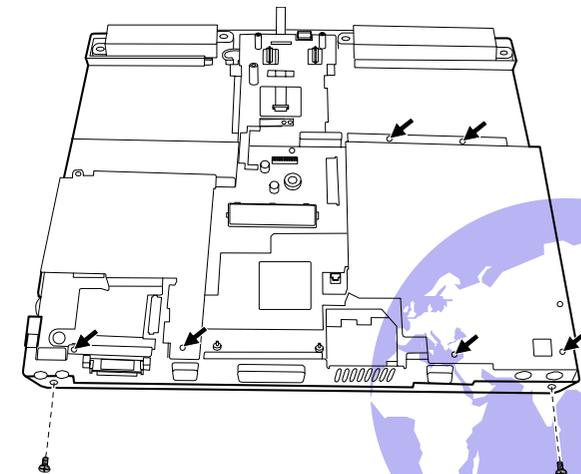

Figure 5-31. Removing Eight Screws Fastening Metal Shield and System Board
5. Remove two screws on the rear side, as well as six screws fastening the metal shield. (Refer to Figure 5-31.)
1. Fit the system board into the housing and secure with two screws on the rear side. (Refer to Figure 5-31.)
2. Replace the metal shield and secure with six screws. (Refer to Figure 5-31.)